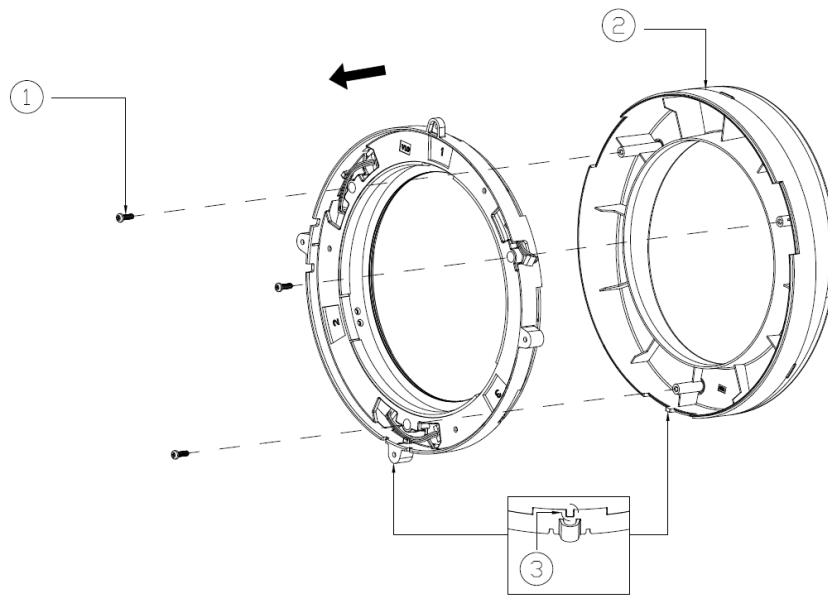

Figure 7-1
(7) Disassemble the Indicator Package
As shown in Figure 7-1, remove the 3 screws ①, then remove the indicator cover ② (RVM100-INDC). The specification of the screw is the self-tapping screw, ST3*10mm.